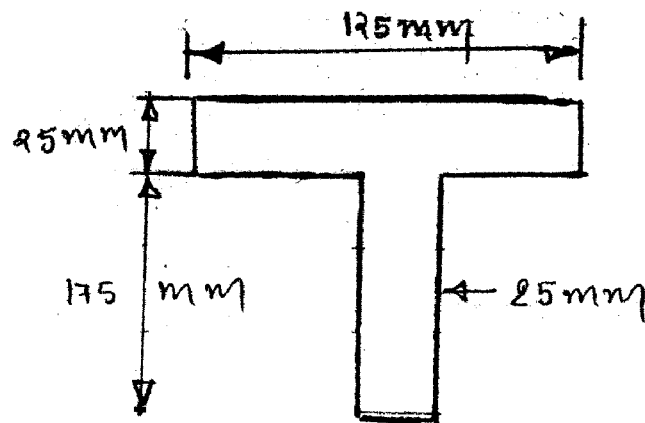

Fig. 2
- (1) A timber beam is freely supported 6m. apart. It carries a uniformly distributed load of 12 kN/m and a concentrated load 9 kN at 2.5 m from left support. If stress in timber is not exceed  $8 \text{ N/mm}^2$ . Design a suitable section making the depth twice width.
- (2) Explain limits of eccentricity and explain for circular and rectangular section.
- (3) A simply supported beam carries a uniform distribution load of intensity  $30 \text{ N/mm}$ . Over the entire span of 1 m. The cross-section of beam is a T-section as shown in fig. 2 Calculate maximum shear stress for the section of the beam.